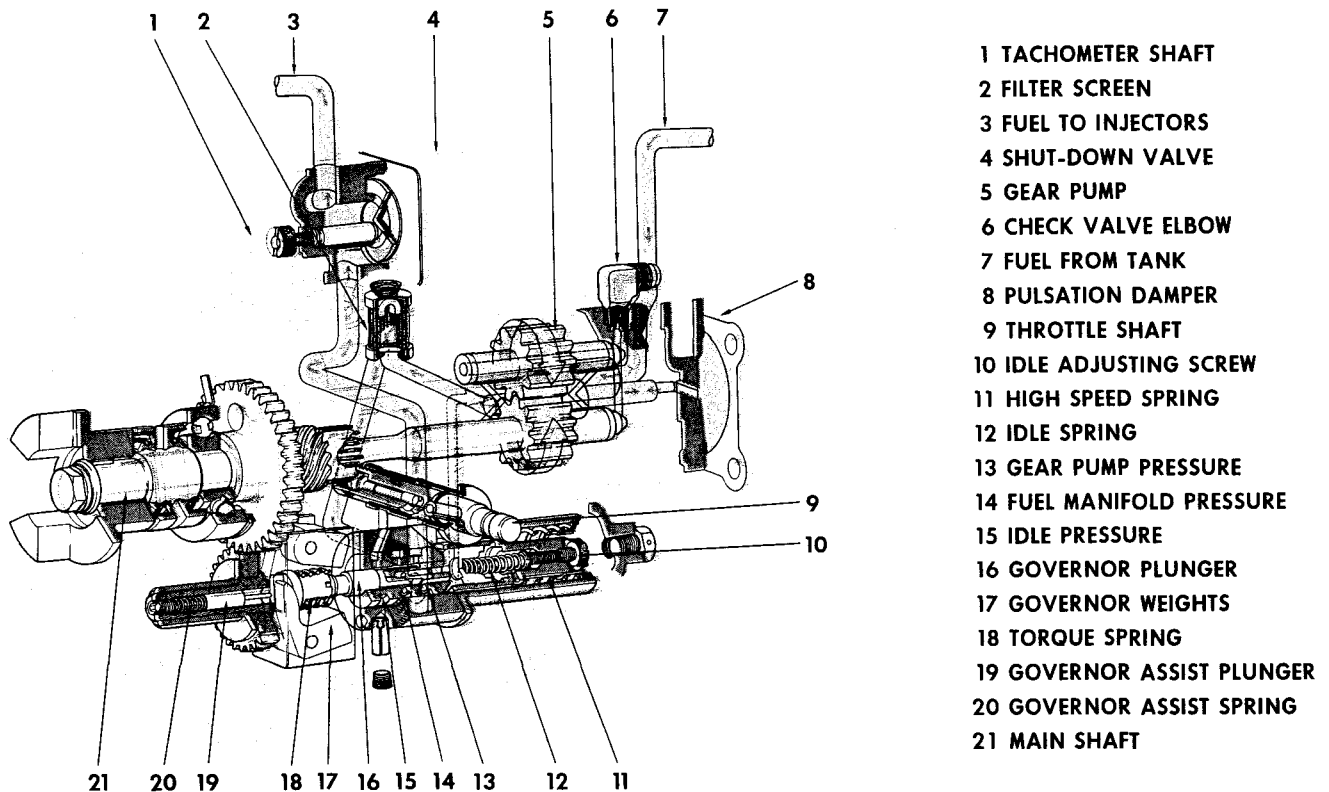

Fig. 6-3, (FWC-31). PT (type G) fuel pump and fuel flow
The PT fuel system consists of the fuel pump, supply lines, drain lines, fuel passages and injectors, Fig's. 6-1 and 6-2. There are two types of PT fuel pumps. The first type, commonly called PT (type G), is shown in Fig. 6-3. The second type, called PT (type R), is shown in Fig. 6-4.
1. In the PT (type G) fuel pump to the governor assembly as shown in Fig. 6-3.